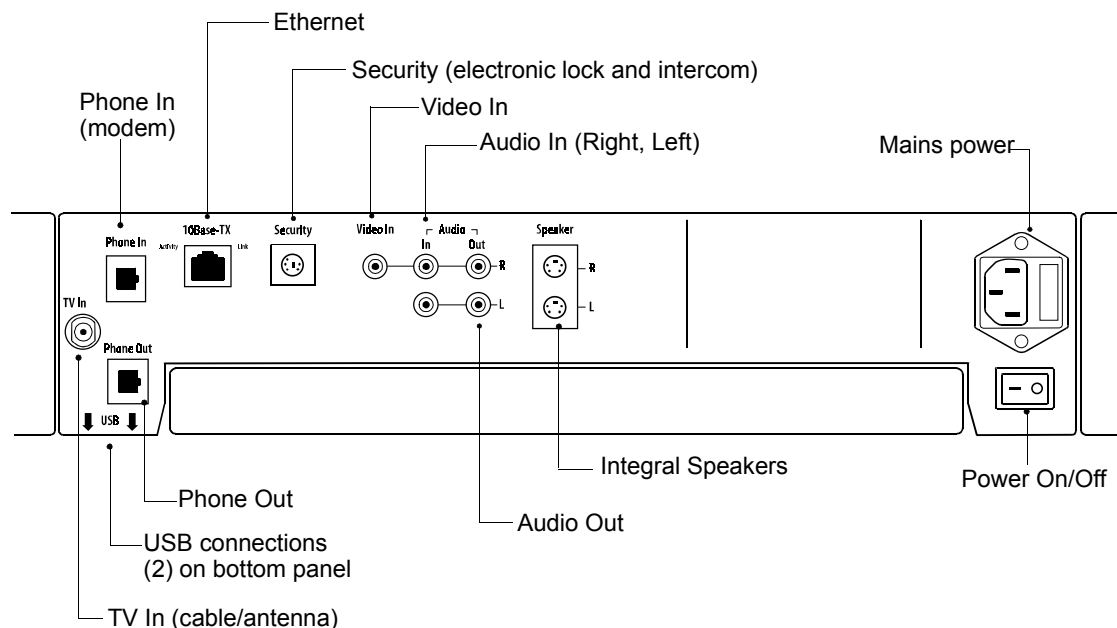

Figure 4-3 Flipscreen iCEBOX rear panel connections
- Slide the unit slightly forward. While supporting the chassis with one hand, reach behind the unit and unplug all connections to the rear panel. Refer to Figure 4-3 for locations of rear panel connectors.